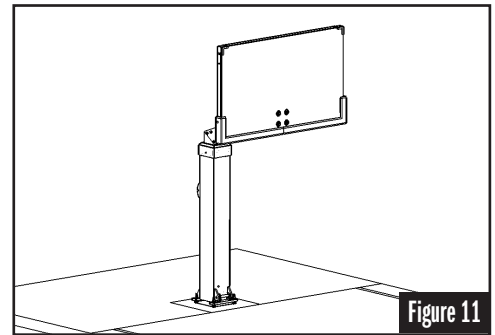

Figure 11
- Raise the hoop until it is standing straight up. Hold the hoop in position for the following steps. See Figure 11. *This step requires two adults to hold the hoop up and one adult to secure the hardware.